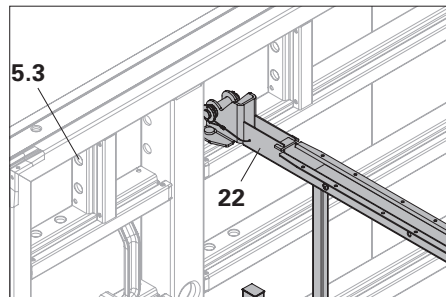
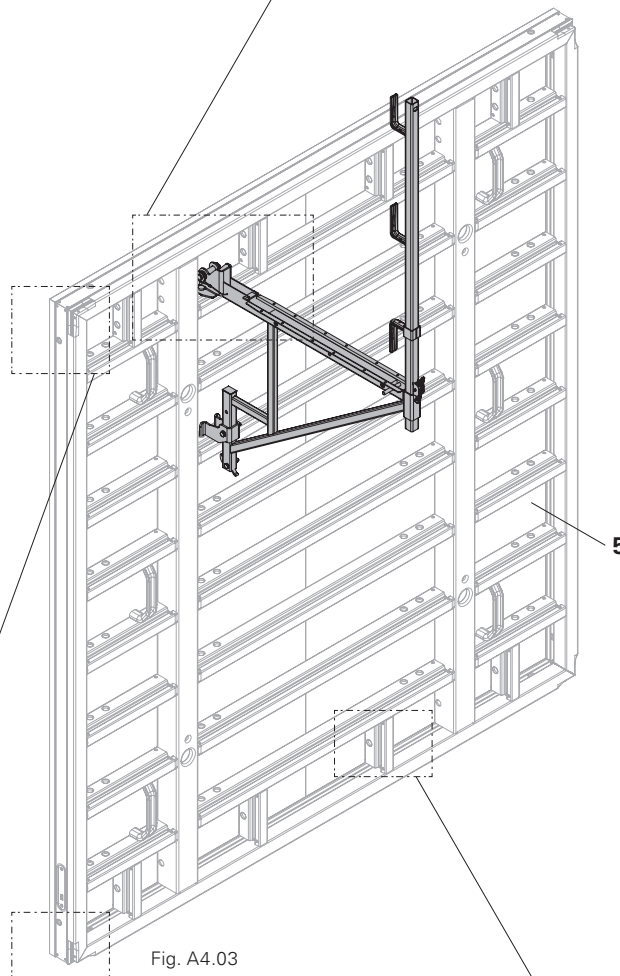

Fig. A4.03d
Fig. A4.03
- For console brackets and opposing guardrail holders, e.g. Scaffold Bracket MXK (22), see Section "A13 Working and concreting platforms" on page 84. (Fig. A4.03 + Fig. A4.03d)